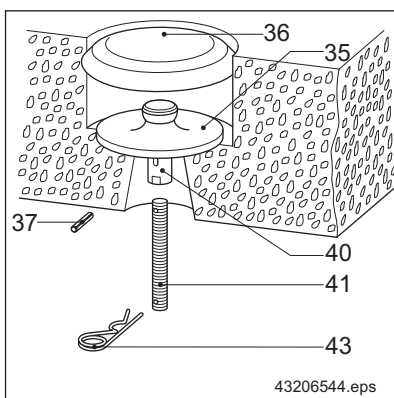

Fig. 11 Floor fixture plate arrangement
The bolts must be in contact with the side of the girder flange and aligned vertically or for very narrow girders centred as close as possible to the girder flange. (Maximum distance 8 mm). In borderline cases, the spring clip may collide with the clamp screws on very narrow girder flanges. In these cases, we recommend the use of split sleeves, as shown in \Rightarrow Fig. 11, Page 31. It may also be possible to insert the bolts of clamp (26) from below, thus preventing the bolts from colliding with spring clip (43).
1. Tighten clamp fastening arrangements (26) uniformly on each side.